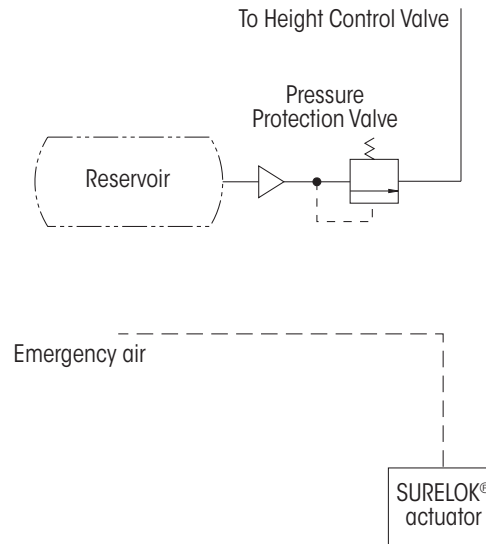
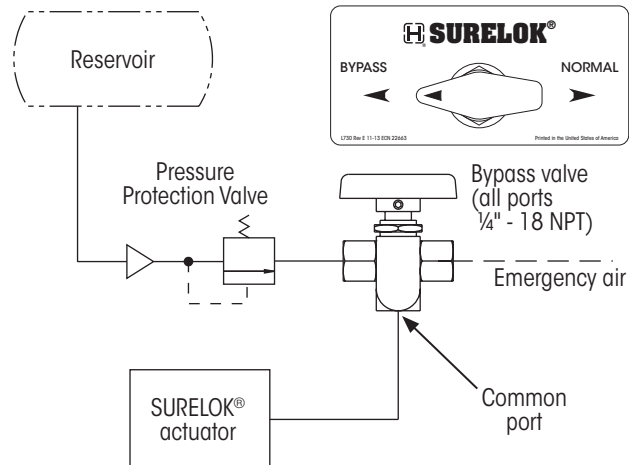

Figure 77: Typical plumbing schematic
Figure 78: Manual bypass valve plumbing schematic
2. **Reference** the applicable plumbing diagram, Figure 77, Figure 78 or Figure 79, and plumb the trailer according to the control kit option used.
**No valve included** — Standard (typical) operation. With this air control kit (Figure 77), SURELOK engages automatically when the parking brake is applied and disengages automatically when the parking brake is released. No provision is made to bypass SURELOK (there is no bypass valve) and the trailer is not equipped with air suspension exhaust capability (there is no air dump valve).
disconnecting it from the trailer's parking brake system (Figure 78). This bypass operation is accomplished by manually turning a control valve from the **normal** position to the **bypass** position. With SURELOK® bypassed, the suspension can be exhausted onto the internal air spring bumpers using a separate or previously-installed manual air suspension dump valve.